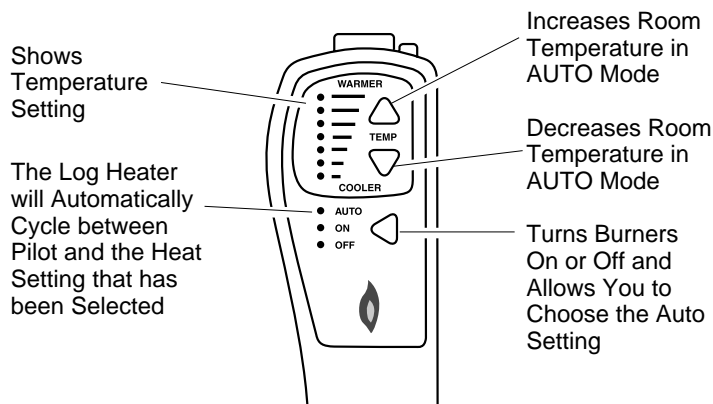

Figure 24 - Thermostat Hand-Held Remote Control Unit Selections (GHRCTA Series Only)
- 2b. Press the AUTO/ON/OFF button on the hand-held remote control (see Figure 24, page 16). The lights to the left of the button will show AUTO, ON, or OFF.